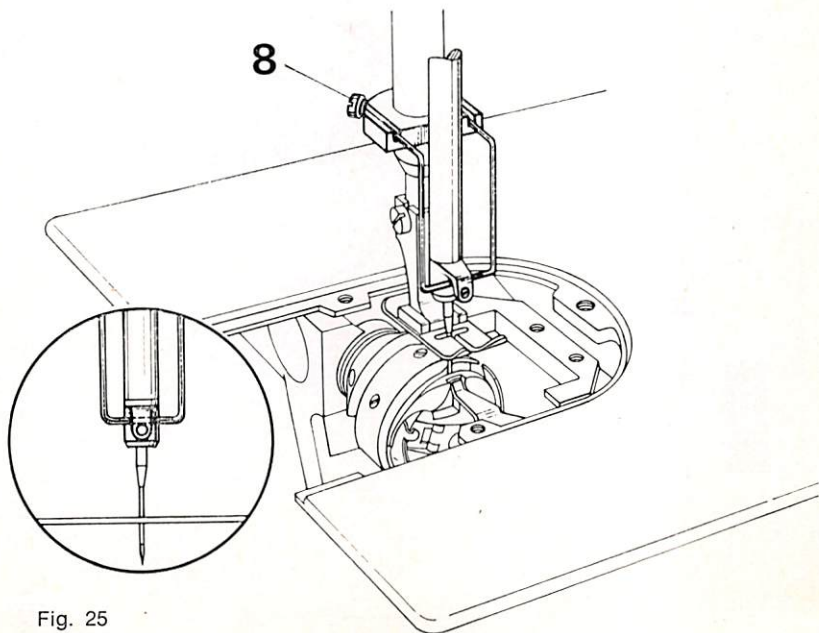

Fig. 25
23. Adjusting the Slack Thread Control (Fig. 25)
- 23.4 Adjust the position of the slack thread control on the presser bar bushing so that the lower edge of the slack thread control wire is in line with the top edge of the hole in the thread guide (see circle in Fig. 25).